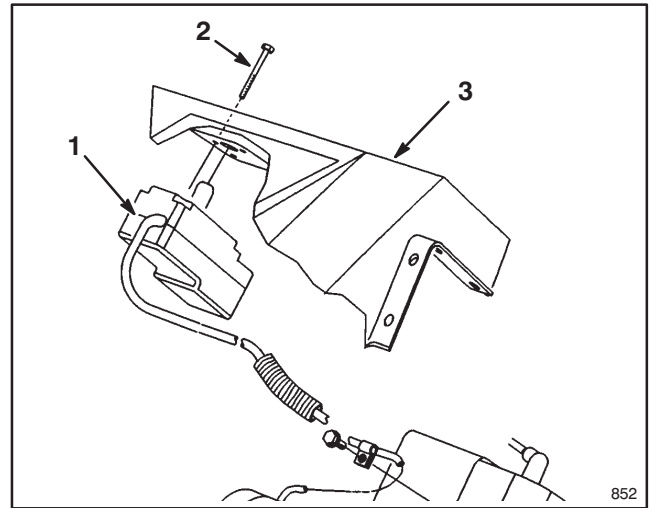

Figure 11
15. Attach new switch assembly using screws removed from old switch assembly (Fig. 11).